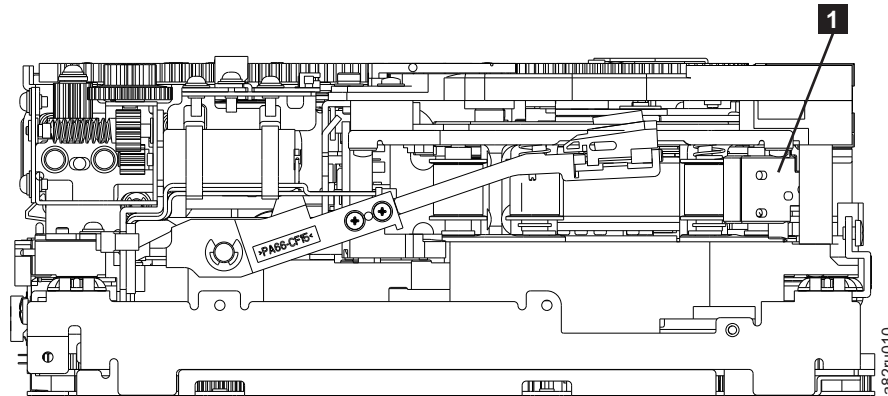

Figure A-8. Leader Block Assembly (LBA)
10. Rotate the threader motor worm gear ( **4** in Figure A-7 on page A-10) to turn the threader mechanism gear ( **6** in Figure A-7 on page A-10) counterclockwise. This moves the LBA out of the cartridge and past the read/write head. Stop this rotation when the LBA is near the tape guide roller nearest the rear of the drive shown as **1** Figure A-8.